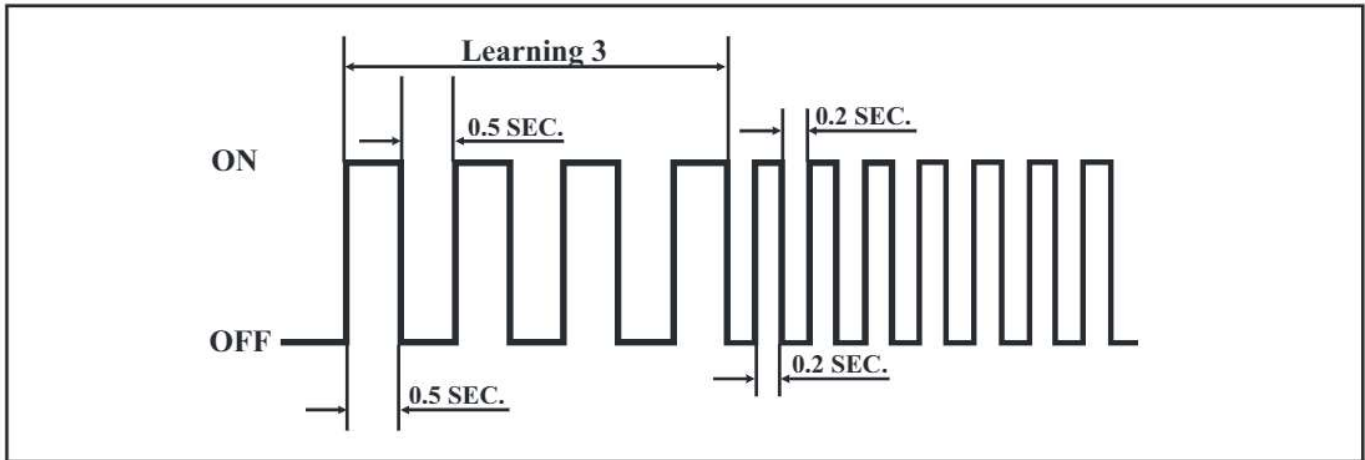

Figure 41
13. Turn the Overdrive OFF (switch is OUT). The Overtemperature Lamp will begin to blink slowly as seen in Figure 41.